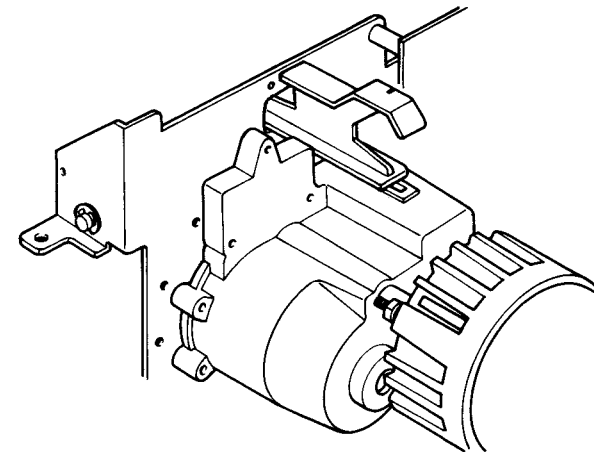

Fig. 57
(1) Set the speed change knob in the guide groove of the gear cover and put the gear cover on the head frame. (Refer to Fig. 57)